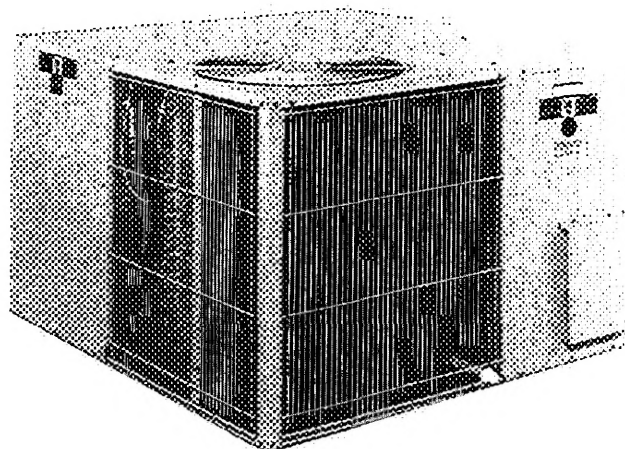

Fig. 1 — Model 48NLT, NMT, NET, NHT and NVT
**General** — The 48NLT, NMT, NET, NHT and NVT units are fully self-contained, combination gas heating/cooling units designed for outdoor installation. See Fig. 1. The units are shipped in a vertical configuration and may be installed either on a rooftop or converted to horizontal configuration when placed on a ground-level cement slab.